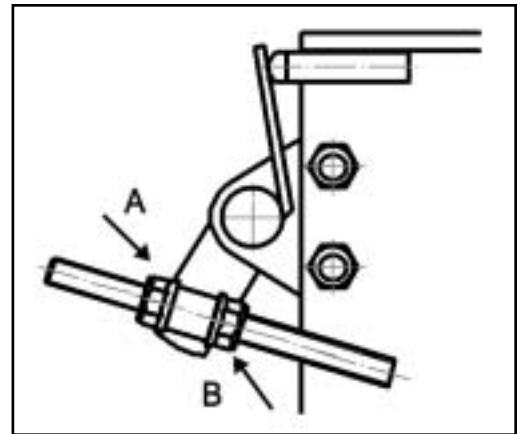

Figure 21
4. Loosen tracking adjustment nut "A" and "B" on the left side of the machine until the LH wheels starts to creep forward. Make a note of the position of the adjustment nut "A". (Figure 21).
- For the right side, repeat step 5. (See figure 21)